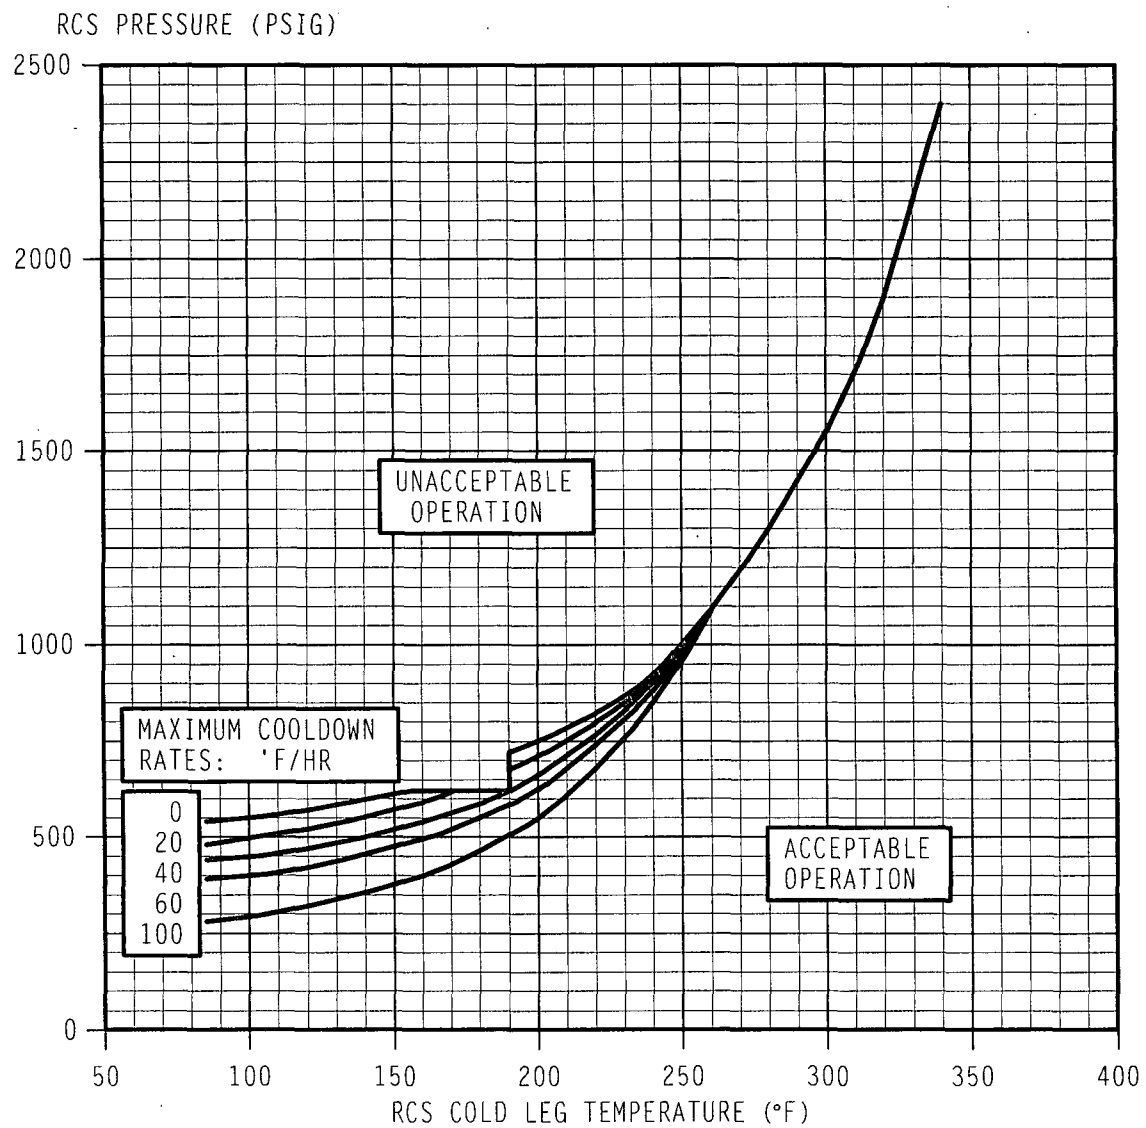

FIGURE ES04-1, REACTOR COOLANT SYSTEM COOLDOWN LIMITATIONS
- c. Maintain RCS temperature and pressure - WITHIN LIMITS OF TECHNICAL SPECIFICATION COOLDOWN CURVE (REFER TO FIGURE ES04-1)